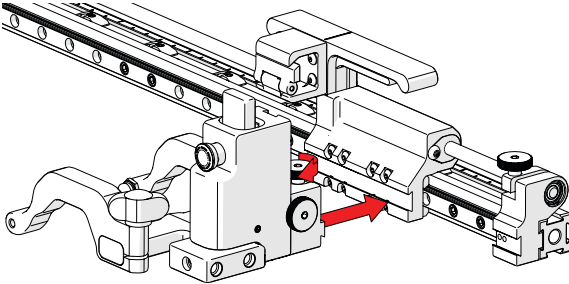

Fig. 26 - Mount probe holder to carrier
1. Loosen the probe holder adjustment knob (Fig. 26) and mount the heavy duty vertical probe holder's dovetail jaw to the carrier.